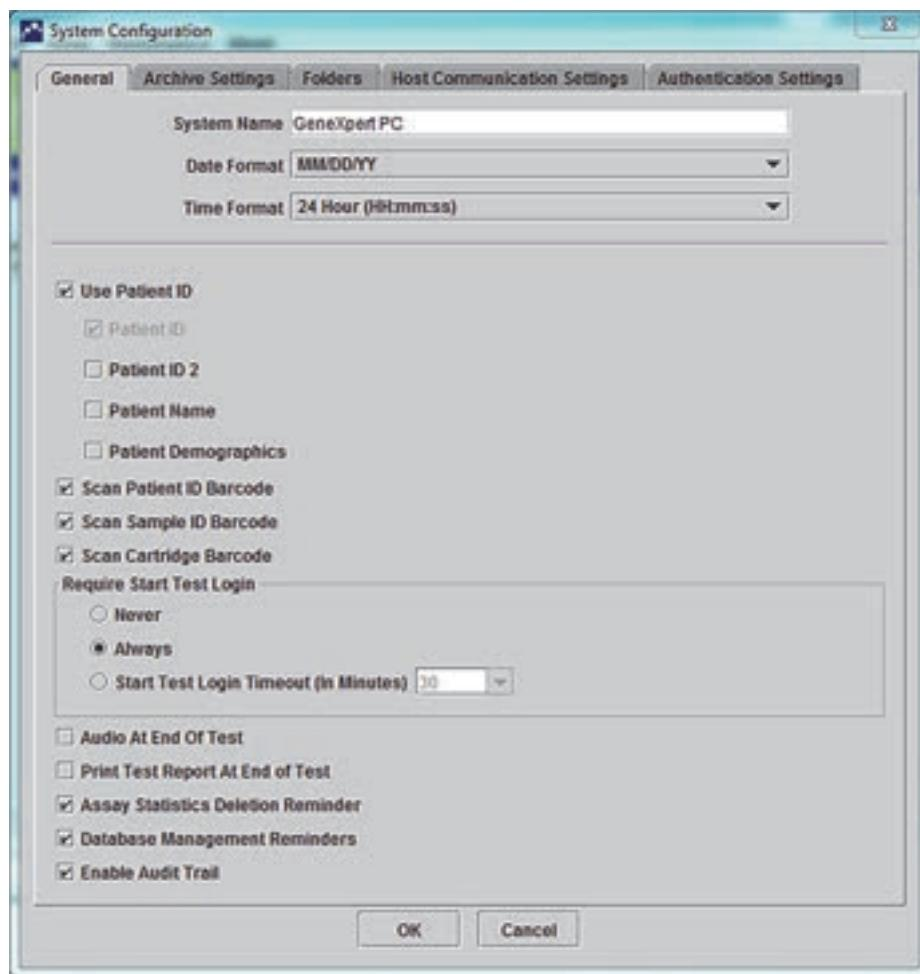

Figure 2-77. System Configuration Dialog Box (General Tab)
1. In the GeneXpert Dx System window (see Figure 2-56), click **Setup** on the menu bar, then click **System Configuration**. The System Configuration dialog box and the **General** tab appears. See Figure 2-77.